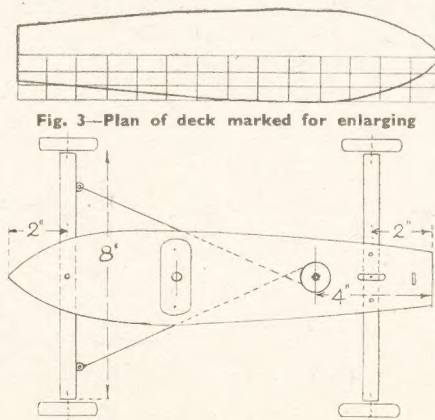

Fig. 4—Plan of deck, wheels, axles, etc.
As a substantial base for the mast, cut out a piece of $\frac{1}{2}$ in. wood to the shape shown at (A) on plan Fig. 4. This should measure 2 $\frac{1}{2}$ ins. long by 1in. wide and a $\frac{1}{2}$ in. diameter hole must be made in it for the mast which, as will be noted, runs down through the hole made in the deck. Nail the piece to the deck with two 1in. long wire nails.
The axles are identical in length, and cut from $\frac{1}{2}$ in. thick wood $\frac{1}{2}$ in. wide. The front axle will be pivoted by running a round-head screw up loosely through the deck and into the axle. The back axle will be fixed to the stern of the yacht by means of wire nails and glue. Insert two brass or copper screw-eyes into the side of the front axle, as shown in Fig. 4, for the attachment of the steering cord.